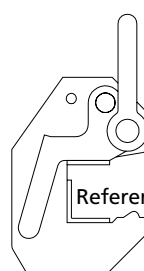

Fig. 18.5 – M crane hook
- the crane hook must be replaced immediately. The crane hook must also be replaced if only one side of the hook exceeds the reference dimension (Fig. 18.5 and 18.6).